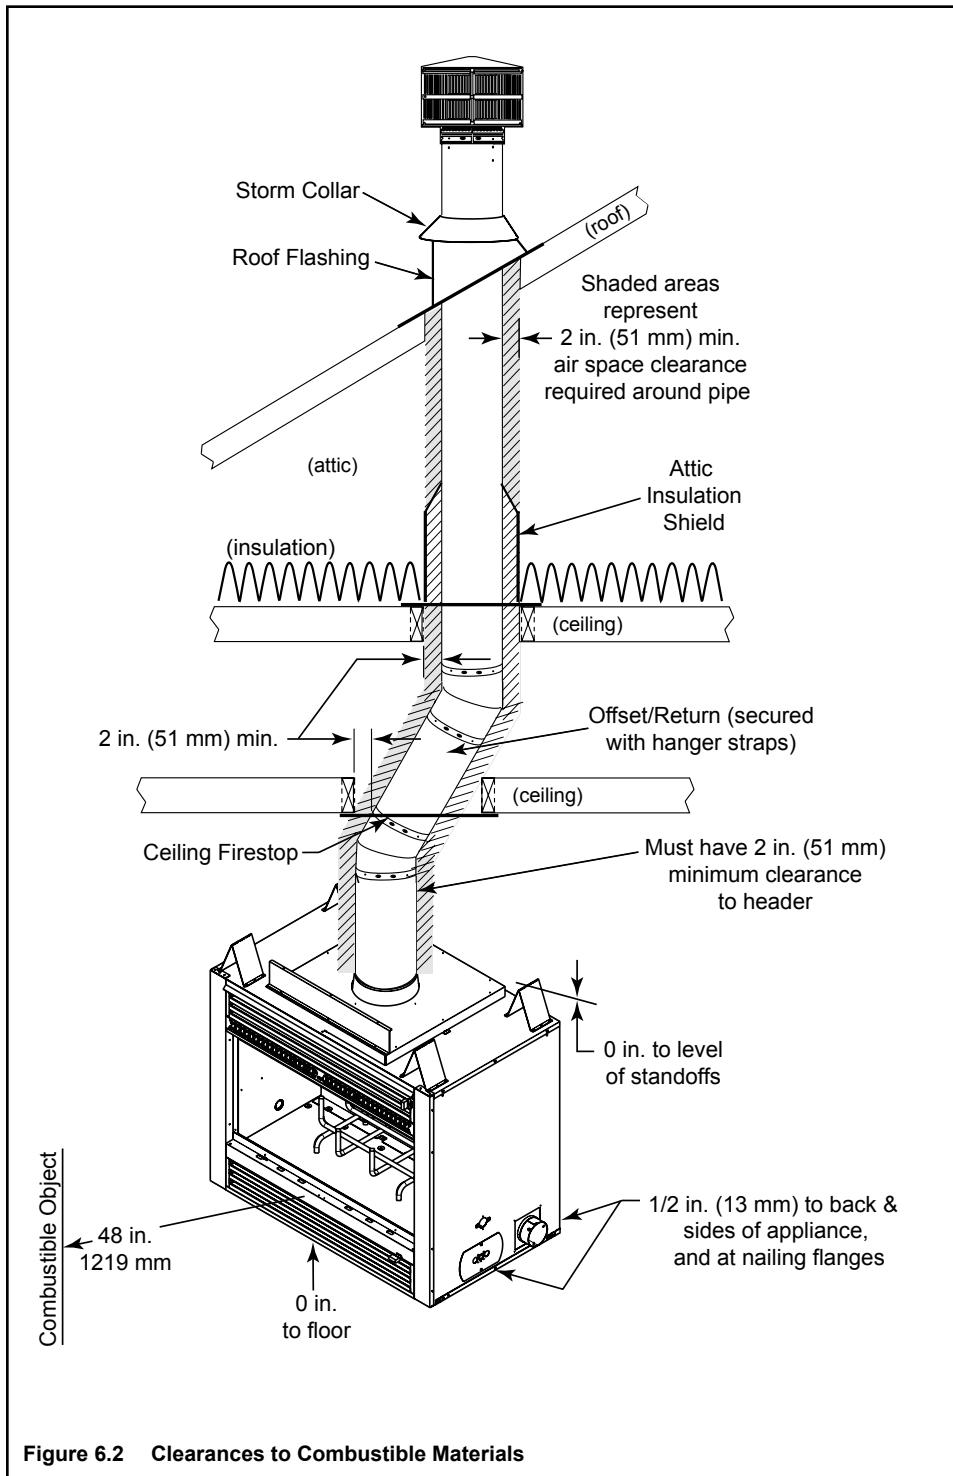

Figure 6.2 Clearances to Combustible Materials
**WARNING! Risk of Fire!** You must comply with all minimum air space clearances to combustibles as specified in Figure 6.2. **DO NOT** pack required air spaces with insulation or other materials.